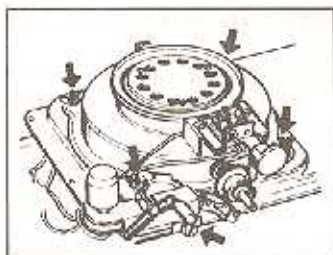

Fig. 16
- (7) Remove 4 wing nuts and 1 screw holding the wick holder assembly and lead wires from ignition device (Fig.16).